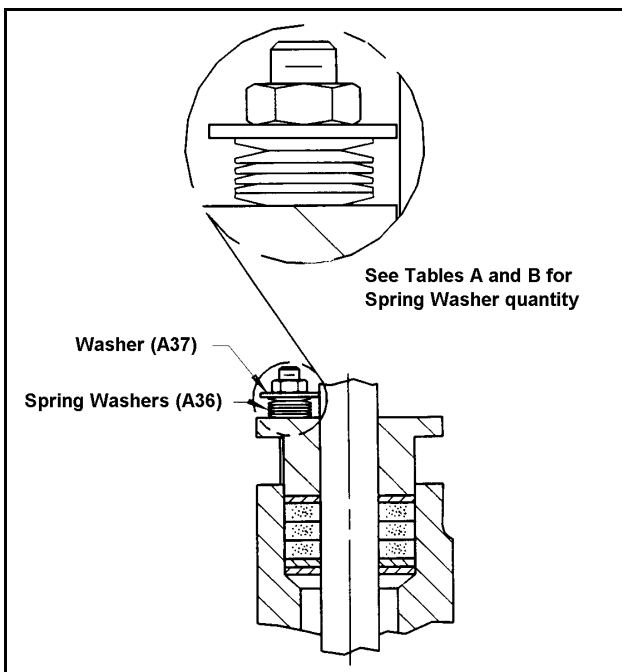

Figure 8—Packing Option G2L
- f. Replace the gland (A12), the new spring washers (A36), the two flat washers (A37), and the two gland nuts (A15). Arrange the spring washers in the configuration shown in Figure 8 on page 9, with the top and bottom washers in series, and the remaining washers in parallel. Do not tighten the nuts.
- b. Place the new gasket (A16), the secondary packing chamber (A17), and the new secondary packing, one ring at a time, in the configuration shown in Figure 8 on page 9—do not lubricate. Start each chevron ring into the packing chamber at a slight angle, and push each ring carefully into position so that the sealing lips do not bend over. Place the gland (A12) and the two gland nuts (A15) in position as shown—Do not tighten the nuts.
- c. Replace the gland (A12), the new spring washers (A36), the two flat washers (A37), and the two gland nuts (A15). Arrange the spring washers in the configuration shown in Figure 8 on page 9, with the top and bottom washers in series, and the remaining washers in parallel. Tighten the nuts finger tight, and torque the nuts evenly to the value in Table A (page 13) for Class 150 valves, and in Table B (page 14) for Class 300 valves.
- b. Place the new packing (A11) and anti-extrusion washers (A34) in the body, one ring at a time, in the configuration shown in Figure 8.
- d. Arrange the spring washers in the configuration shown in Figure 8, with the top and bottom washers in series, and the remaining washers in parallel.
- ◆ The two flat washers (A37) in the configuration shown in Figure 8 on page 9, with the top and bottom washers in series, and the remaining washers in parallel—do not tighten the nuts.